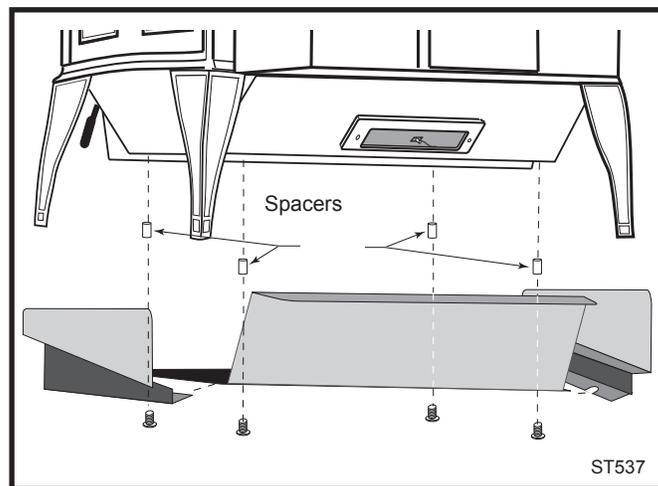

Fig. 23 Attach the optional bottom heat shield.
4. Pass all four bolts through the large end of the keyholes. Pull the shield forward to engage the smaller ends of the keyhole slots. (Fig. 23)
- Attach the heat shield sides by passing the slots over the bolt heads. Tighten the hex bolts. (Fig. 23)